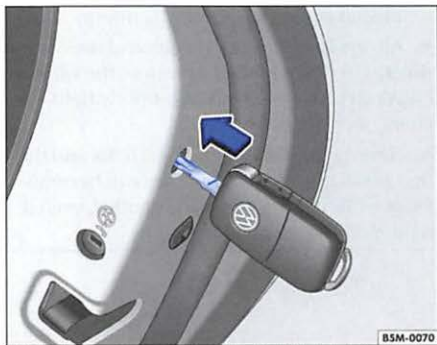

Fig. 30 Using the car key to emergency lock the vehicle
- Insert the key horizontally into the opening and press the small white lever forward ⇒ **fig. 30**.